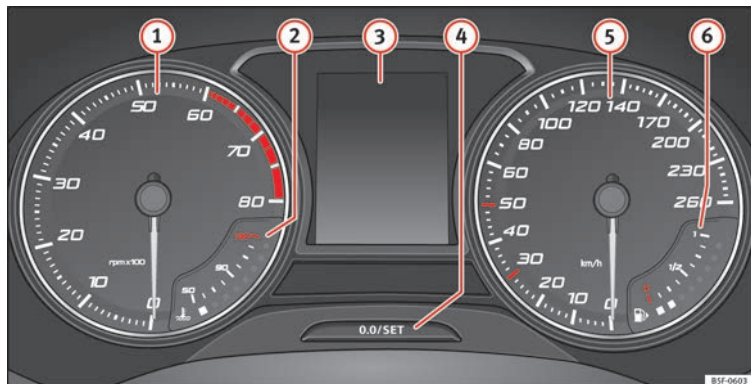

Fig. 119 Instrument panel, on dash panel.
Details of the instruments » **Fig. 119:**
The rev counter indicates the number of engine revolutions per minute » **Fig. 119 1**.
Never allow the rev counter needle **1 » **Fig. 119** to go into the red zone on the scale for more than a very brief period, otherwise there is a risk of engine damage.**
A variety of information can be viewed on the instrument panel display » **Fig. 119 3**, depending on the vehicle equipment:
- Briefly press the button »» Fig. 119 ④ to reset the trip recorder to 0.
- Keep the button ④ pressed for about 3 seconds and the previous value will be displayed.
- To set the time, keep the button »» Fig. 119 ④ pressed for more than 3 seconds to select the hour or minute display.
- To continue setting the time, press the upper or lower part of the button ④. Hold but-
Hold the button **»» Fig. 119 4** down for more than 15 seconds to display the identifying letters of the vehicle engine (MKB). To do this, the ignition must be switched on and the engine switched off.